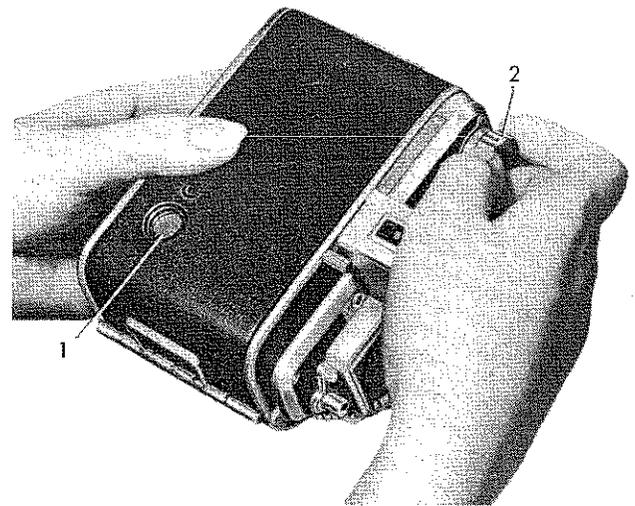
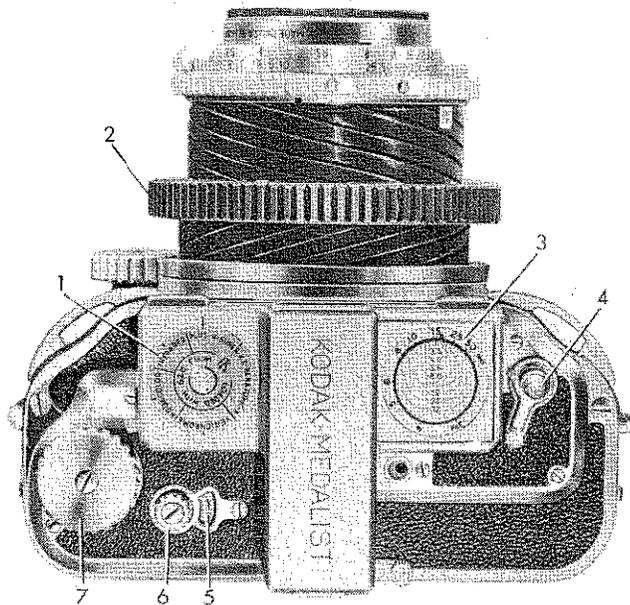

Figure 11—Winding Film
Figure 12—Kodak Medalist, Top View
(5) Turn the winding key knob (2, figure 11) once or twice to bind the paper on the spool. Be sure the paper is started straight. Close the back with a firm pressure until the hinge grips snap outward into place.
(1) Draw back the slide which covers the red film window (1, figure 11) on the back of the camera. This is a spring slide and must be held while the winding key knob (2, figure 11) is turned. Turn until a small hand appears in the film window. Continue turning slowly until the figure "1" appears at the edge of the window. Depress the counter knob (6, figure 12) and turn the counter dial (5, figure 12) until the figure "1" appears in the forward part of the window. Then give a slight turn to the winding key knob until it locks. The figure "1" on the protective paper will now show in the film window.
(2) If the film is inserted in the camera and the winding knob turned with the exposure counter on some figure other than "0", the winding mechanism will lock. The counter knob must then be depressed and turned until "8" appears in the forward half of the window. To release the winding mechanism the lens must be brought to picture-taking position (refer to paragraph 2.c., this section) and the trigger button (4, figure 12) pressed. Then proceed with winding the film as described above.
(3) The film indicator dial (1, figure 12) on the top of the camera should be set to show the kind of film with which the camera is loaded.
c. **BRINGING THE LENS TO PICTURE-TAKING POSITION.** (See figure 12.)—Turn the large focusing collar (2) on the focusing tube to bring the lens to a picture-taking position. This can be judged by the focusing scale (3) on the top of the camera. As the lens is brought forward, this scale automatically revolves and when ∞ (Infinity) comes to the index (and not before) the trigger button (4) can be depressed.